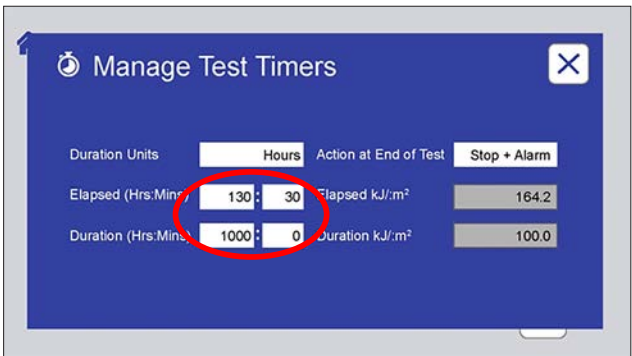
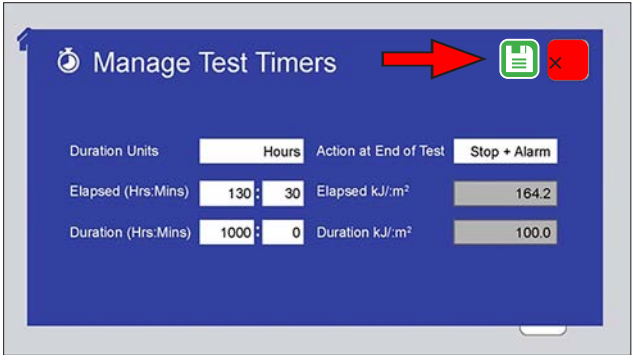

Figure 10.5g: Touch the enabled text box(s) to enter the new values.
Figure 10.5i: If any changes have been made, touch the save changes icon or the cancel changes icon to re-display the Main Menu screen.
- Set the elapsed and/or duration in the selected units for the current test (Figure 10.5g through Figure 10.5i).